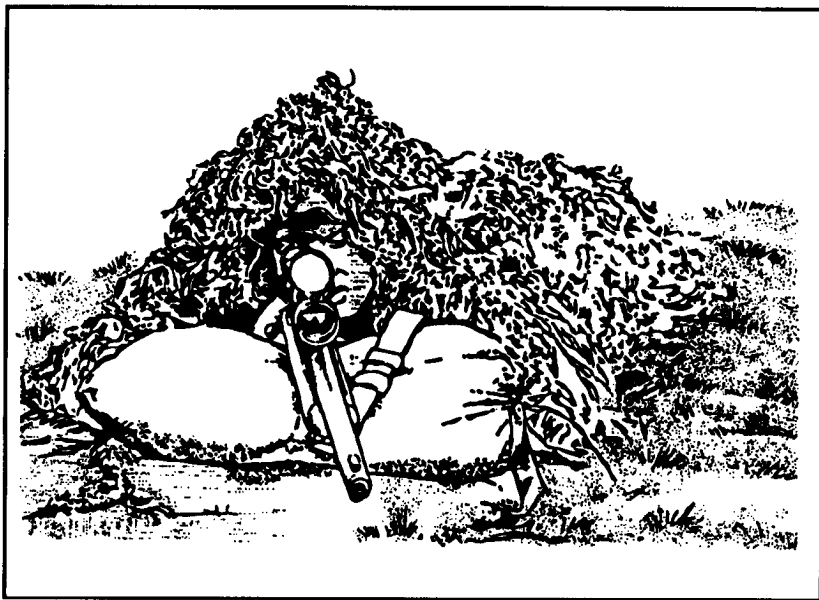

Figure 3-11. Sandbag.
(3) **Sandbag.** The sniper can fill an empty sandbag (Figure 3-11) on site.